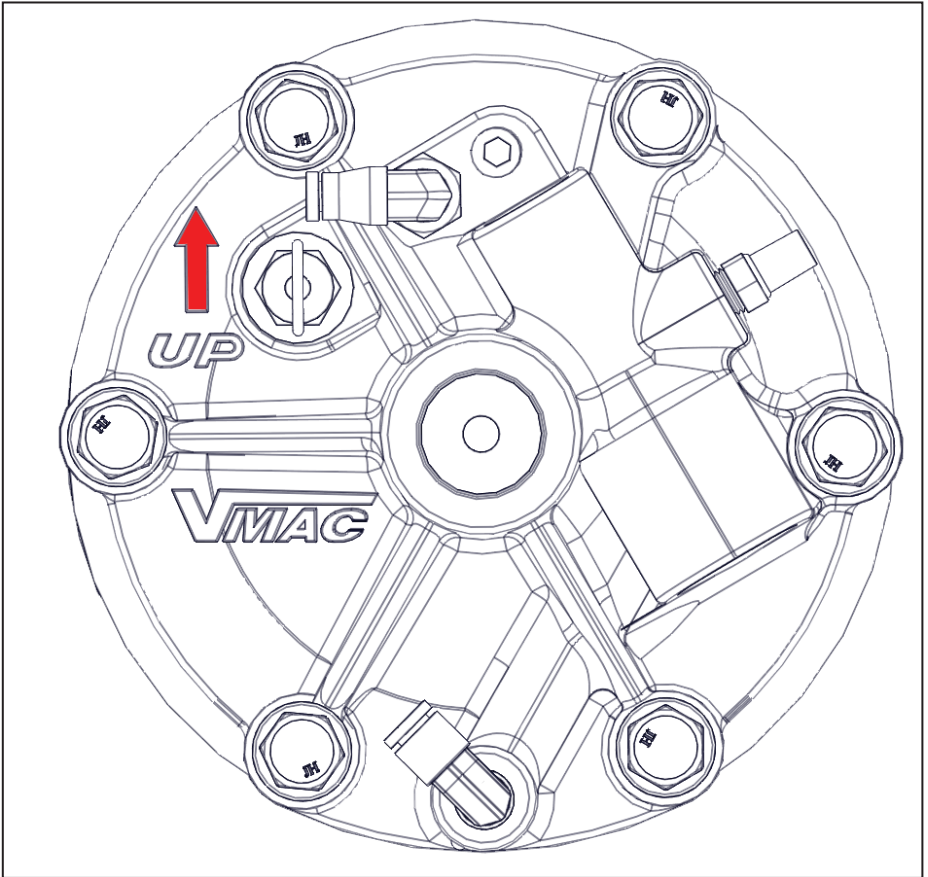

Figure 25 — Securing the AOST (Rear view)
- ☐ Rotate the tank so that the directional arrow on the rear of the tank is pointing upwards (Figure 25).